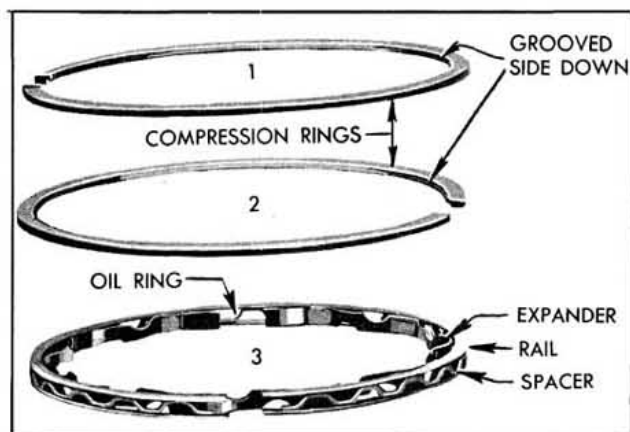

Fig. 3-32 Piston Rings
8. Install piston rings as shown in Fig. 3-32. Position expander ends over piston pin. Install oil ring rail spacer, and oil ring rails. Position gaps in rails up on same side of piston as oil spit-hole in connecting rod. Install compression rings in upper two grooves. If a single chrome plated compression ring is used, the chrome ring must be installed in the top groove.
9. Install compression rings in top and center groove. See Fig. 3-32.